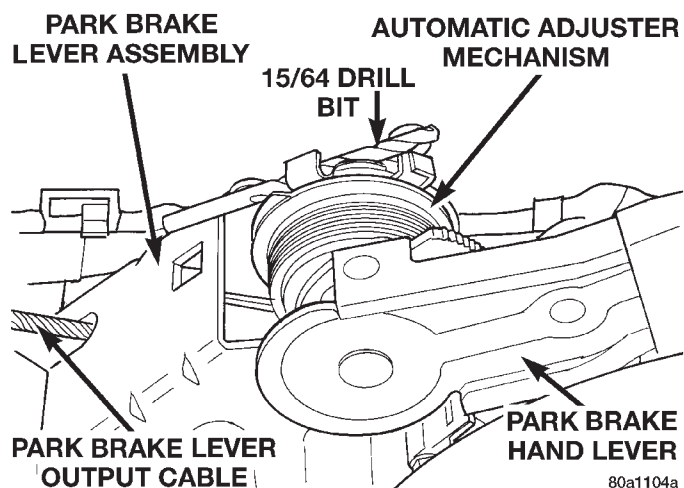

**Fig. 135 Park Brake Lever Correctly Reloaded**
(9) Reload the adjuster mechanism on the park brake lever using the following procedure.
- Ensure the park brake lever is in the **full down position** when attempting to pull on park brake lever output cable (Fig. 135).
- Grasp the park brake lever output cable (Fig. 135) by hand and pull upward.
- Continue to pull upward on cable until a 15/64 drill bit can be inserted in the adjuster mechanism as shown in (Fig. 135). This will lock-out the auto adjuster mechanism removing the tension from the park brake lever output cable. This will then allow the rear park brake cables to be easily removed from the equalizer.
(14) Unload the adjuster mechanism on the park brake lever using the following procedure. Grasp the park brake lever output cable by hand and pull upward until all tension is removed from the drill bit (Fig. 135). used to reload the adjuster mechanism. Remove the drill bit from the clock spring of the park brake lever adjuster mechanism. Then, slowly release the park brake lever output cable until all slack is removed from the cable.
(15) Clip the wiring harness to the park brake lever bracket.
(16) Install the wiring harness connector on the ground switch of the park brake lever.
(17) Cycle the park brake lever once from the released position to the fully applied position and then back to the released position. This will position the park brake cables and fully adjust them to thier proper tension.